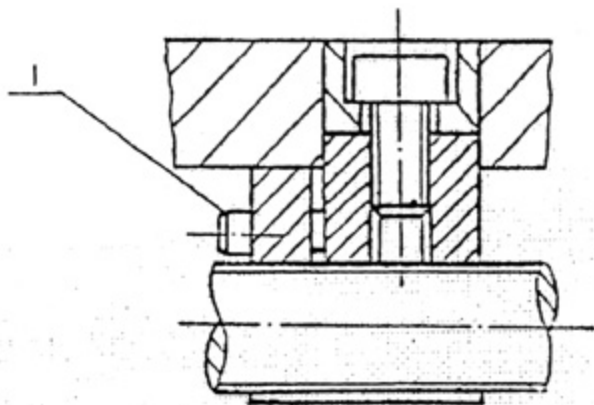

Figure 5: Adjust the clearance of the cross slide nut
E. Adjust the clearance of the Cross Slide Nut (see Figure 5):